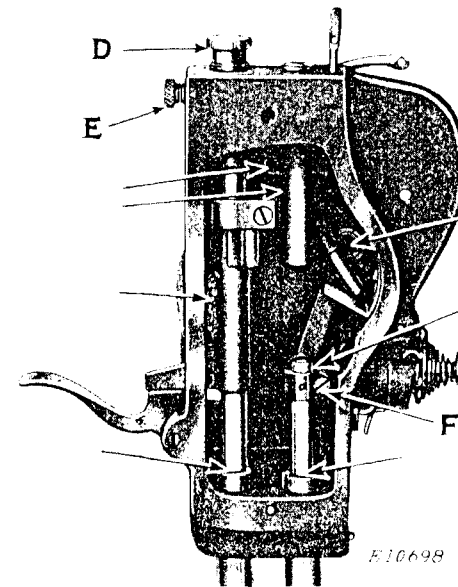

Fig. 3. End View of Machine, Showing Oiling Points, also Adjustments on the Machine
Loosen the thumb screw near the upper end of the face plate, pull out the lower end of the face plate, turn the plate upward and oil the wicks and bearings as shown in Fig. 3, then replace the face plate.
The pressure of the presser foot on the material is regulated by the thumb screw (D, Fig. 3) at the top of the machine. To increase the pressure, loosen the lock screw (E, Fig. 3) and turn the thumb screw (D) over to the right or downwardly. To decrease the pressure, turn the thumb screw (D) over to the left or upwardly. When the desired pressure of the presser foot on the material is obtained, securely tighten the lock screw (E).
The needle bar which is in the machine, when shipped from the factory, has upon it (about two inches from the bottom) two lines  $\frac{3}{32}$  inch apart. When the needle bar is at its lowest point, loosen the needle bar connecting stud pinch screw (F, Fig. 3) and set the needle bar so that its highest mark is even with the bottom of the needle bar bushing.